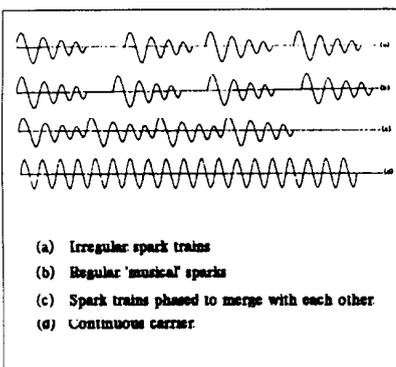

Fig. 1
One may wonder what sort of transmitter was used. For tolerable transmission of speech and music a continuous wave (CW) carrier is needed, rather than the discontinuous damped wavetrains of standard spark transmitters. Although the amplifying and oscillating capabilities of the Audion valve had been discovered in 1912/13, it seems unlikely that valves were available for the Laeken transmitter. This leaves three possibilities: an arc system; a high-frequency alternator; or a synchronous spark arrangement wherein the spark repetition rate was high (perhaps 10kHz) and spark timing was such that each wavetrain was phased to give a coherent series of oscillations, hardly distinguishable from true CW. (Fig.1)